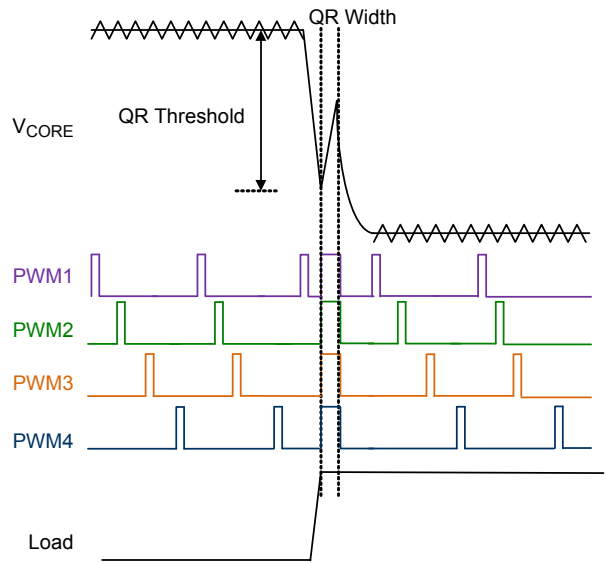
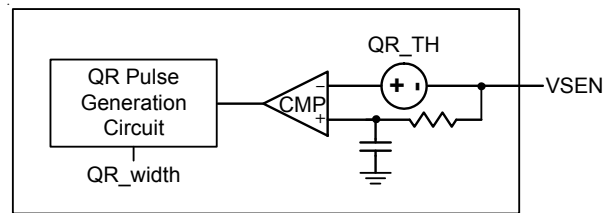

Figure 21. Quick Response Mechanism
Figure 22. Simplified QR Trigger Schematic
When the transient load step-up becomes quite large, it is difficult for loop response to meet the energy transfer. Hence, that output voltage generate undershoot to fail specification. The RT3607CJ has Quick Response (QR) mechanism being able to improve this issue. It adopts a nonlinear control mechanism which can disable interleaving function and simultaneously turn on all UGATE one pulse at instantaneous step-up transient load to restrain the output voltage drooping. Figure 21 shows the QR behavior.
The output voltage signal behavior needs to be detected so that QR mechanism can be triggered. The output voltage signal is via a remote sense line to connect at the VSEN pin which is shown in Figure 22. The QR mechanism needs to set QR width and QR threshold. Both definitions are shown in Figure 21. A proper QR mechanism set can meet different applications. The SET2 can set QR threshold and QR width by internal current source 80μA with multi-function pin setting mechanism.